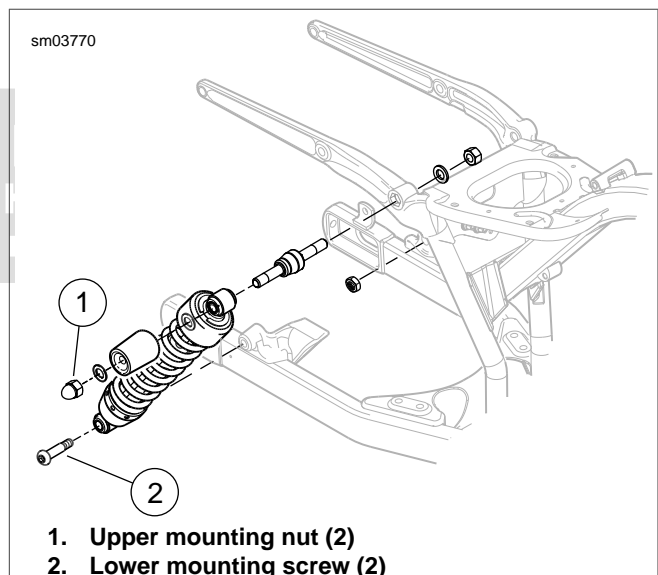

Figure 2-11. Rear Shock Mount
6. See Figure 2-11. Loosen, but do not remove, left and right upper mounting nuts (1).
7. Remove left and right lower shock mounting screws (2).
7. See Figure 2-11. Attach rear shocks.
- a. Apply two or three drops of LOCTITE THREAD-LOCKER 243 (blue) to threads of lower shock mounting screws (2).
- b. Lift rear fork and install both shock absorbers with lower shock mounting screws (2).